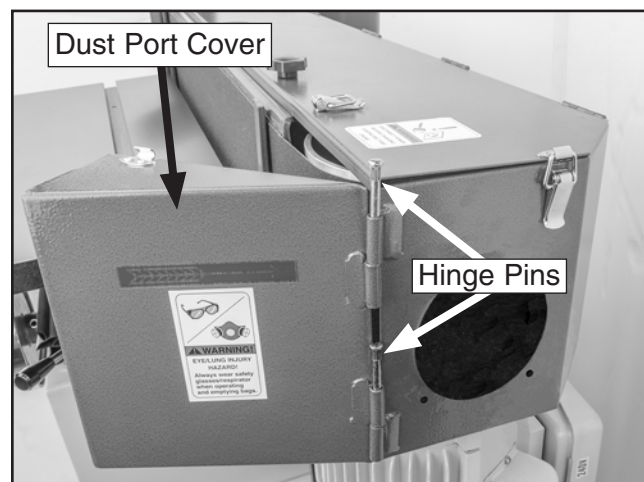

Figure 7. Dust port cover installed.
2. Insert hinge pins through aligned hinges, as shown in **Figure 7**, and tap with a hammer for full insertion.